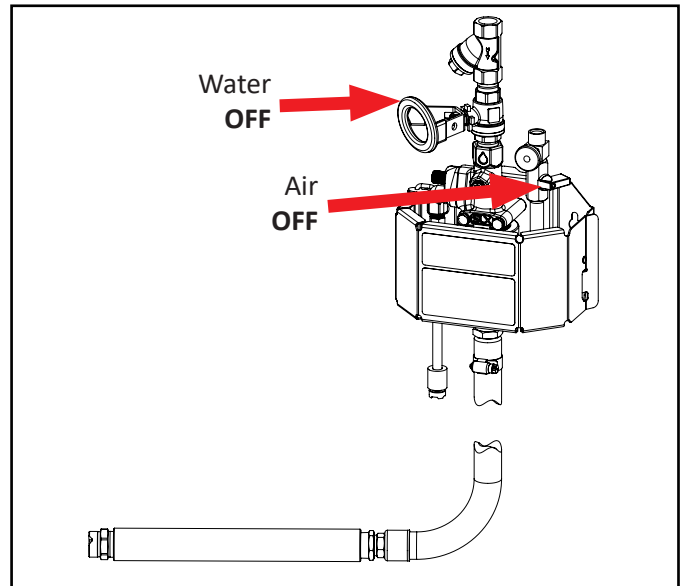

Fig. 7.1: Ball valve positions for start up
1. Ensure foamer is properly connected and the water and air supply valves are closed [Fig. 7.1]